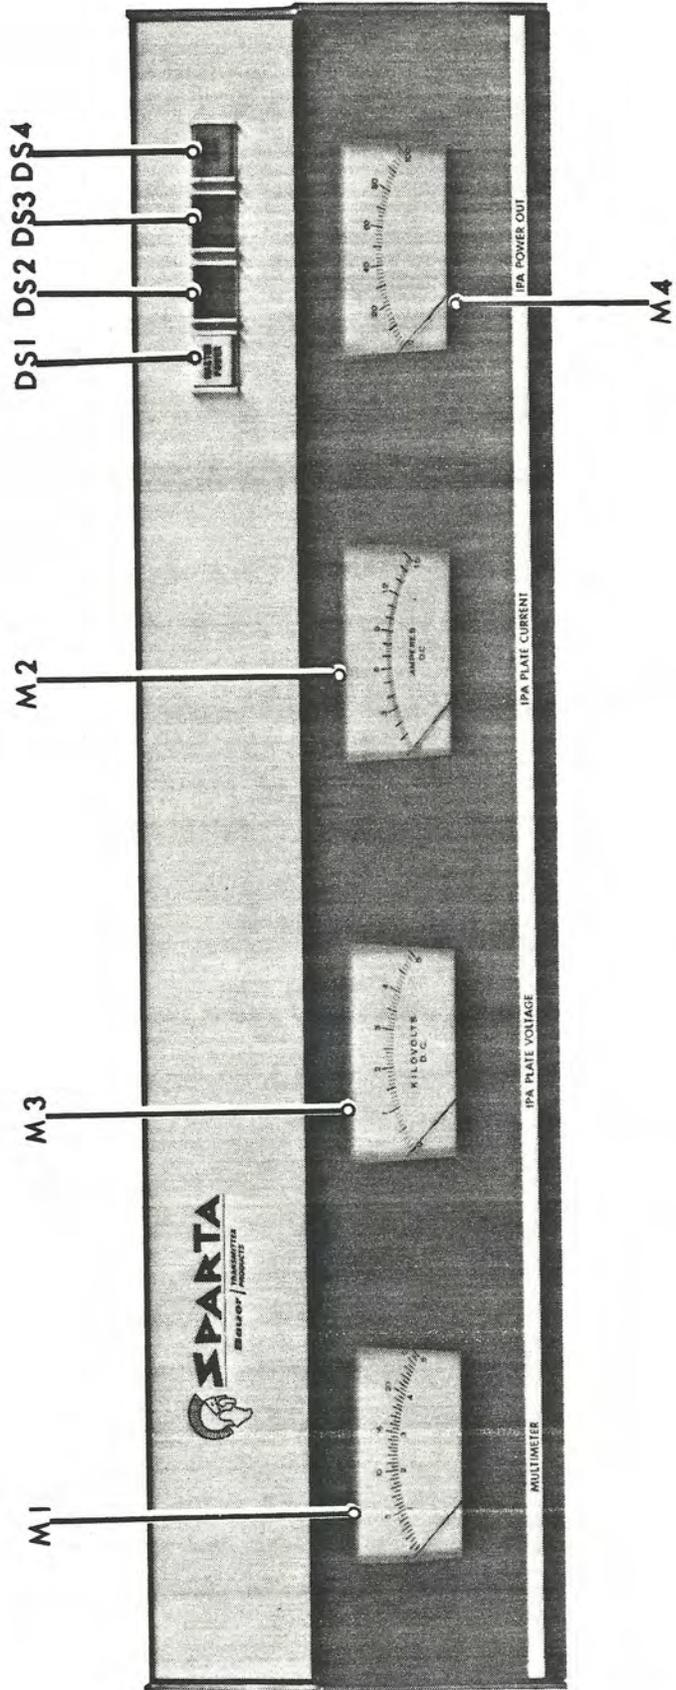
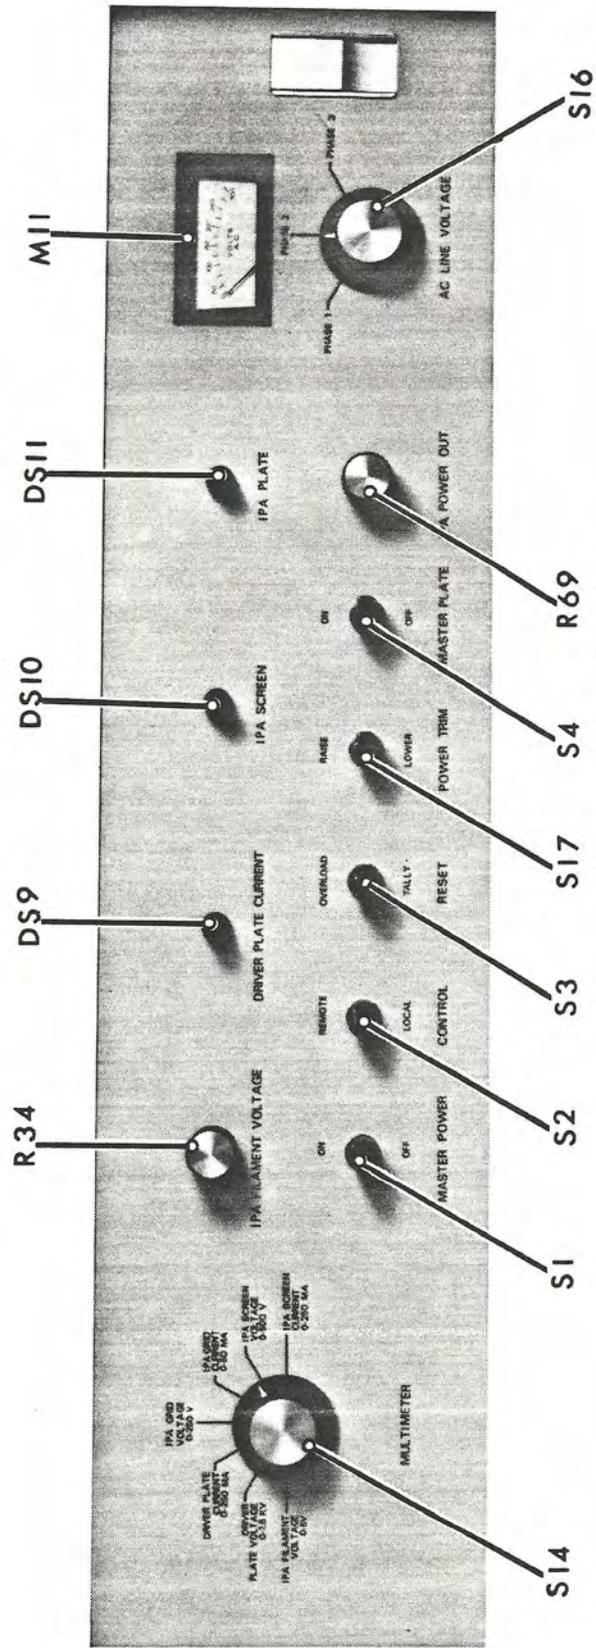

FIGURE 3-1. IPA METER PANEL
FIGURE 3-4 IPA CONTROL PANEL
IPA CONTROL PANEL (Fig. 3-4)
IPA CONTROL PANEL (Fig. 3-4) (Cont'd)
- b. Set CONTROL switch S2 (figure 3-4) to LOCAL.
- d. Set MASTER POWER switch S1 (figure 3-4) to ON and observe that MASTER POWER lamp DS1 lights. (See figure 3-1.) When blowers B1 and B2 build up
- e. Set MULTIMETER function switch S14 to IPA FILAMENT VOLTAGE and adjust IPA FILAMENT VOLTAGE control R34 for an indication of 5 vac on MULTIMETER M1. (See figures 3-1 and 3-3.) If the 5 vac indication cannot be obtained, change the primary tap on transformer T2 as required. (See paragraph 2-4.2.)
- g. Open the lower front IPA section access panel so that power control motor B6 and screen potentiometer R27 can be observed. Press and hold POWER TRIM control S17 (figure 3-4) in the power position until R27 is in its minimum voltage position. Release POWER TRIM control and close access panel.
- h. After the time delay has elapsed, note that INTERLOCKS lamp DS2 (IPA) and INTERLOCKS lamp DS7 (PA) light. (See figures 3-1 and 3-6).
- j. Set PA PLATE switch S12 to ON and set MASTER PLATE switch S4 momentarily to ON and then release. (See figures 3-4 and 3-8.) Note that PLATE lamps DS3 and DS8 light. (See figures 3-1 and 3-6).
- a. Set MULTIMETER function switch S14 (figure 3-4) to DRIVER PLATE CURRENT.
Operating power to the exciter should be applied continuously. At the end of a broadcast period, set MASTER POWER switch S1 (figure 3-4) to OFF but leave MASTER POWER circuit breaker CB1 (figure 3-3) in the ON position. In this manner, the station can resume operation after a delay of approximately 45 seconds.